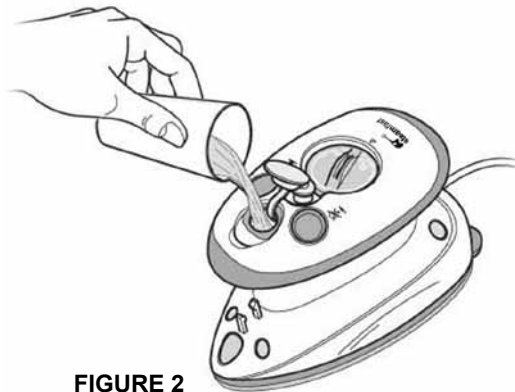

FIGURE 2
4. Open Water Tank Cap. Pour water from Measuring Cup into Water Tank (FIGURE 2). Close Water Tank Cap.